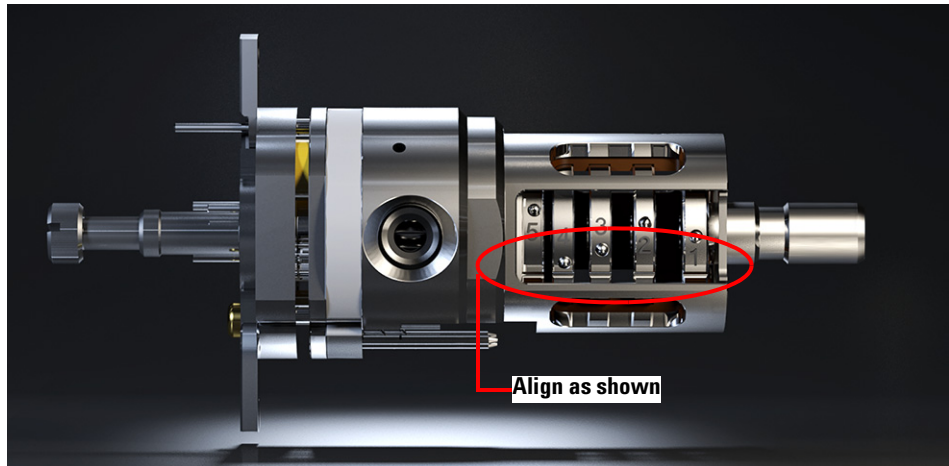

Figure 51 Assembled EI HES
- 1** Assemble the five lenses inside the lens insulator. (See Figure 51 on page 164.) The lens number is engraved into the outer circumference of each lens.